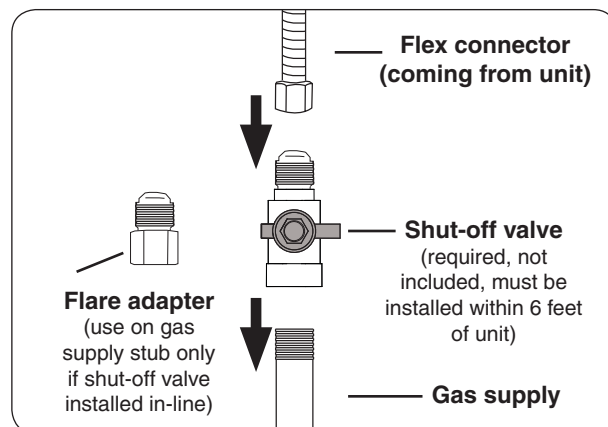

Fig. 21-3 Connecting to a gas line
- Connect the flex connector to the shut-off valve (see Fig. 21-3). Tighten securely.
- Install the supplied flare adapter to the gas supply using a pipe joint compound resistant to all gasses (see Fig. 21-3). Tighten securely.
- Connect the flex connector to the flare adapter (see Fig. 21-3). Tighten securely.